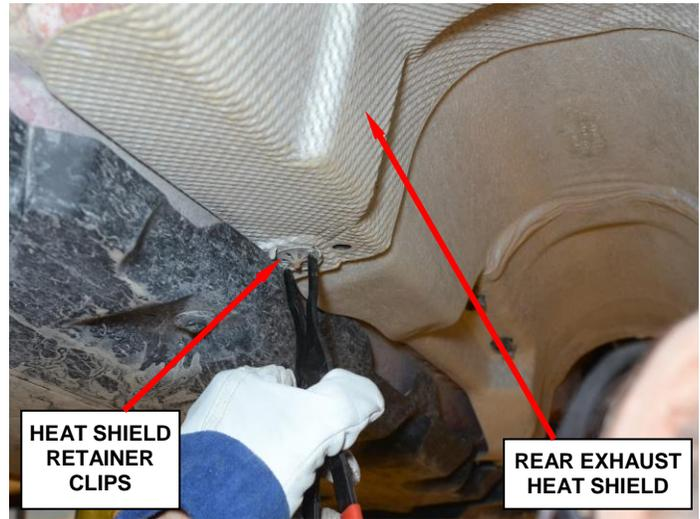

Figure 6 – Rear Exhaust Heat Shield
17. Remove and save the rear exhaust heat shield retainer clips and exhaust hanger bracket. Carefully remove and save the rear exhaust heat shield (Figure 6 and 7).